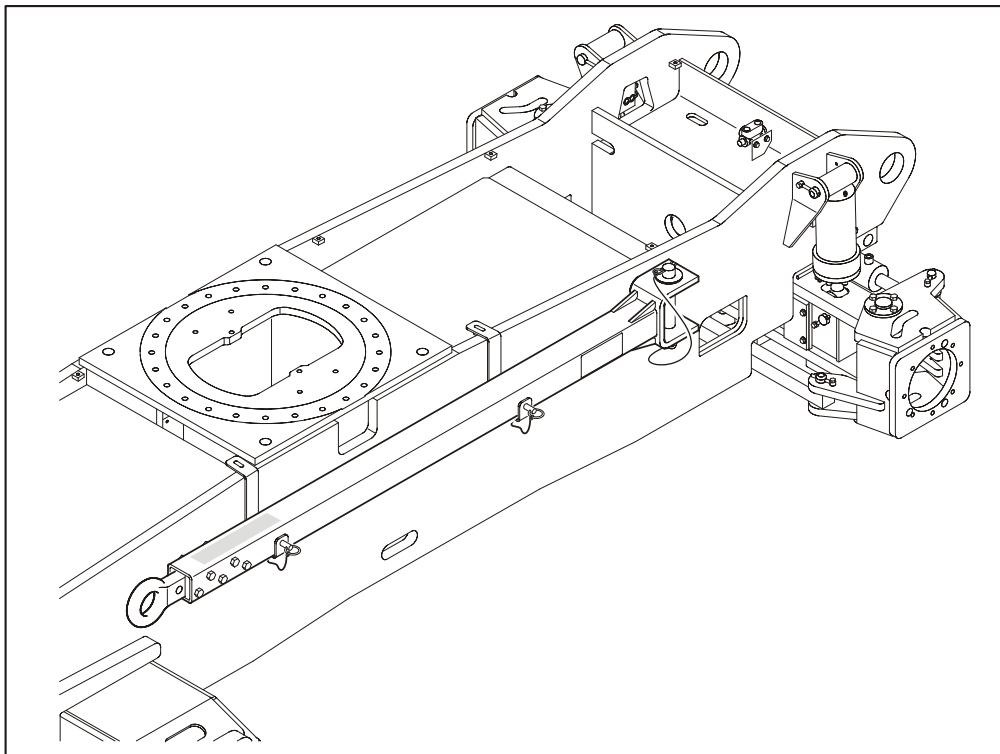

Figure 4-7. Tow Bar
3. Disconnect towbar from towing vehicle and place it in the stowed position as shown in Figure 4-7. The machine is now in the driving mode.